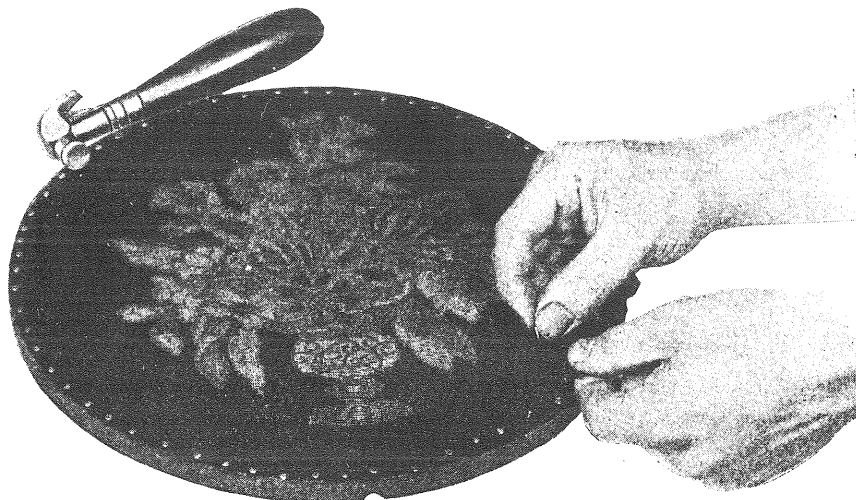

Figure 14—Tacking the grille tapestry in place on the baffle board
- (e) Tack the new tapestry tightly in position (See Figure 14).